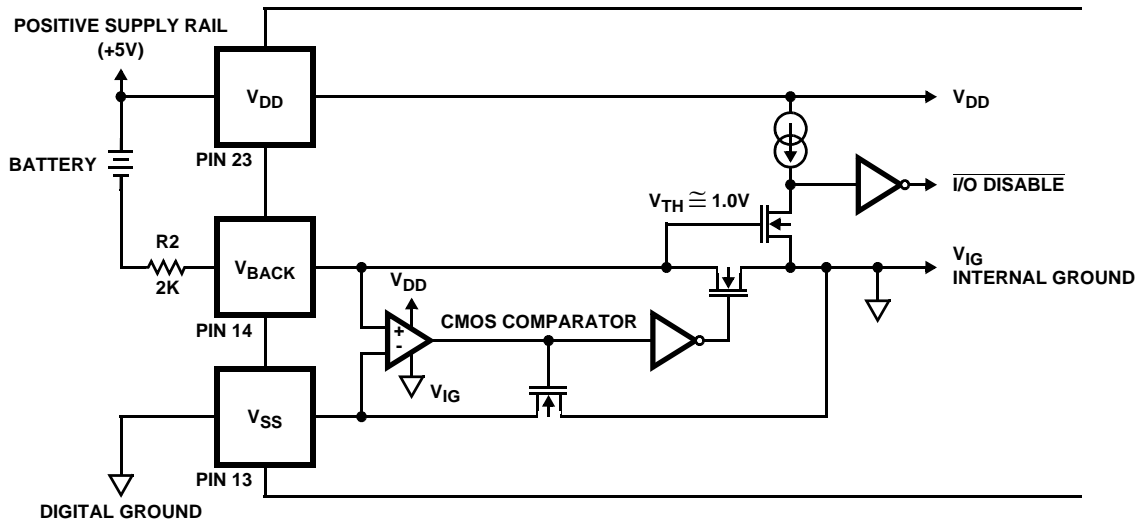

FIGURE 6. SIMPLIFIED ICM7170 BATTERY BACKUP CIRCUIT
The ICM7170 contains an on-chip power down detector that eliminates the need for external components to support the battery-backup switchover function, as shown in Figure 6. Whenever the voltage from the  $V_{SS}$  pin to the  $V_{BACKUP}$  pin is less than approximately 1.0V (the  $V_{TH}$  of the N-channel MOSFET), the data bus I/O buffers in the ICM7170 are automatically disabled and the chip cannot be read or written to. This prevents random data from the microprocessor being written to the clock registers as the power supply is going down.
The new load configuration (Figure 6) allows these two conditions to be met independently. The two load capacitors, C1 and C2, provide a fixed load to the oscillator and crystal. C3 adjusts the frequency that the circuit resonates at by reducing the effective value of the crystal's motional capacitance, C0. This minute adjustment does not appreciably change the load of the overall system, therefore, stability is no longer affected by tuning. Typical values for these capacitors are shown in Table 5. C1 and C2 must always be greater than twice the crystal's recommended load capacitance in order for C3 to be able to trim the frequency. Some experimentation may be necessary to determine the ideal values of C1 and C2 for a particular crystal.
4. EXTERNAL BATTERY BACKUP - The ICM7170 may be placed on the same power supply as battery-backed up RAM by keeping the ICM7170 in its operational state and having an external circuit switch between system and backup power for the ICM7170 and the RAM. In this case  $V_{BACKUP}$  should be pulled up to  $V_{DD}$  through a 2K resistor. Although the ICM7170 is always "on" in this configuration, its current consumption will typically be less than a microamp greater than that of standby operation at the same supply voltage (See Note 9). Proper consideration must be given to disabling the ICM7170s and the RAMs I/O before system power is removed. This is important because many microprocessors can generate spurious write signals when their supply falls below their specified operating voltage limits. NANDing  $\overline{CS}$  (or  $\overline{WR}$ ) with a POWERGOOD signal will create a  $\overline{CS}$  (or  $\overline{WR}$ ) that is only valid when system power is within specifications. The POWERGOOD signal should be generated by an accurate supply monitor such as the ICL7665 under/over voltage detector. An alternate method of disabling the ICM7170's I/O is to pull  $V_{BACKUP}$  down to under a volt above  $V_{SS}$  ( $V_{SS} < V_{BACKUP} < 1.0V$ ). This will cause the ICM7170 to internally disable all I/O. Do not allow  $V_{BACKUP}$  to equal  $V_{SS}$ , since this could cause oscillation of the battery backup comparator (See Figure 6).  $V_{BACKUP} = V_{SS} + 0.5V$  will disable the I/O and provide enough overdrive for the comparator.